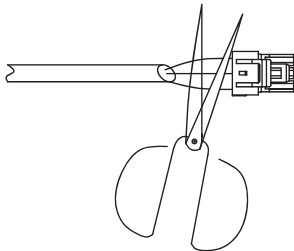

Fig. 19 —Shearing Outdoor Connector
1. Cut the connector on the outdoor unit side as shown in Fig. 19 below.